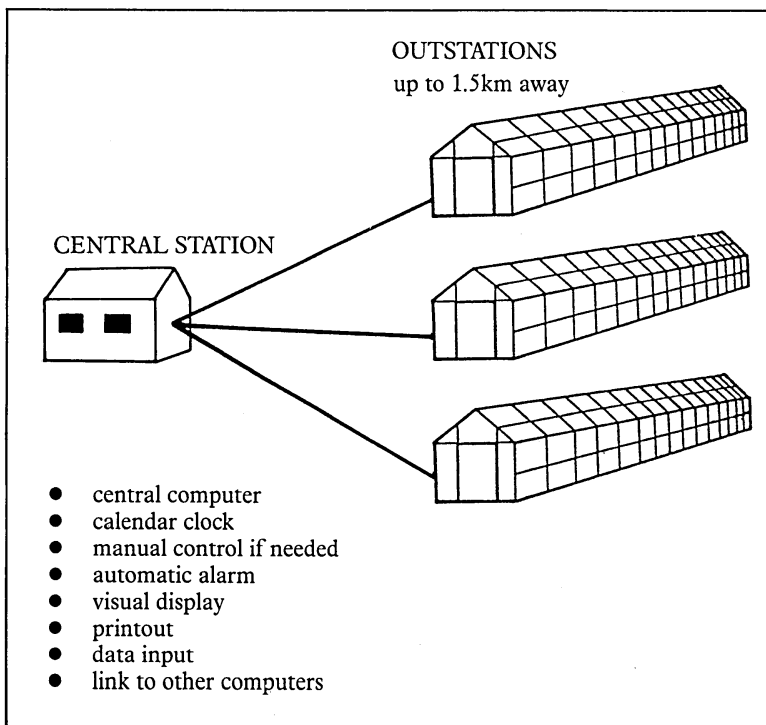

Figure 6 A central station controlling three outstations
The central computer is placed at a central station, as shown in Figure 6. It is connected to each of the outstations.
- 7 Look at Figure 6.